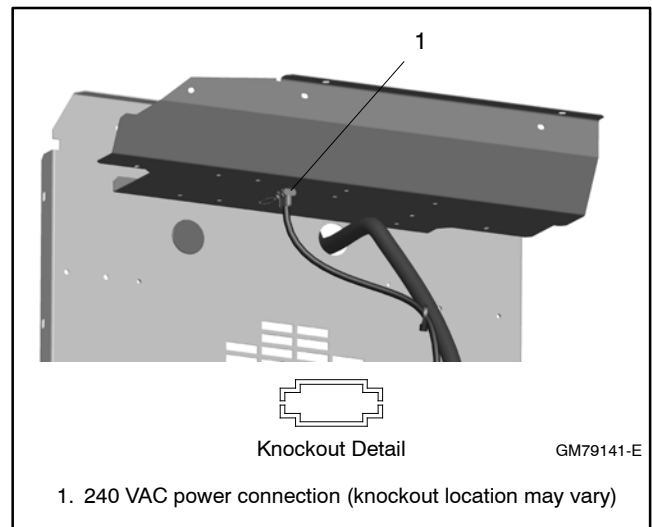

Figure 5 240VAC Power Cord and Knockout
14. Generator sets built after 10/9/2013 with serial numbers SGM327VFJ or later have a knockout under the controller for the 240 VAC power connector. Remove a knockout in the bottom of the controller box. See Figure 5.
15. Insert the heater's power cord connector into the knockout opening. See Figure 5. Confirm that the connector clicks securely in place.